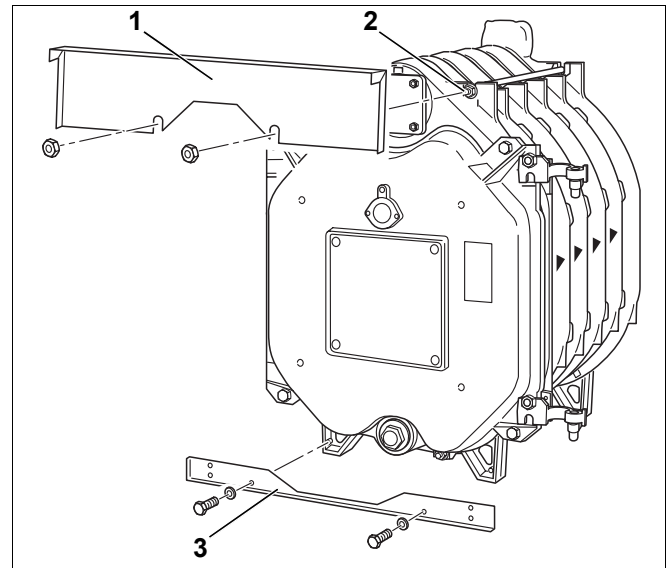

Fig. 30 Installation of the front support brackets
- At the boiler front screw one further nut onto each tie-bars (Fig. 30, **Item 2**).
- Insert the cross support bracket at the front on top of the boiler (Fig. 30, **Item 1**) between the first and the second nut of the tie bars and secure on the cast lugs.
- Secure the cross support bracket at the lower front (Fig. 30, **Item 3**) with two screws on the boiler section feet of the front section.